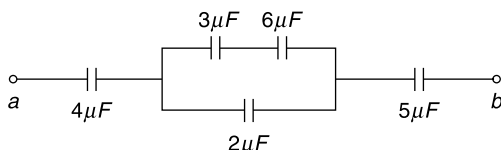

Fig. 2.26 Capacitance configuration of Ex. 2.11
2.11 Find the equivalent capacitance of the network shown in Fig. 2.26 connected across terminals a and b .